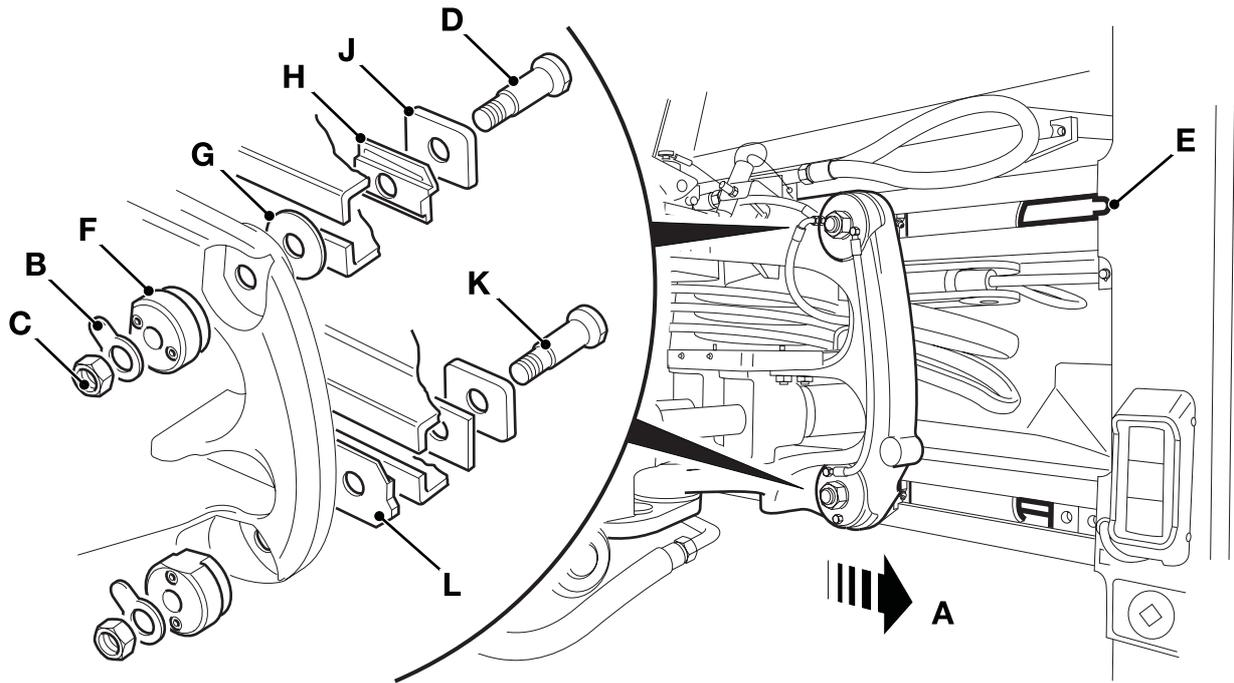

Fig 9. Wear Pad Renewal
- 2 → Fig 9. \(□ B-134\). Sideshift the carriage fully to the RH end of travel **A** (the carriage is shown in the centre position for clarity).